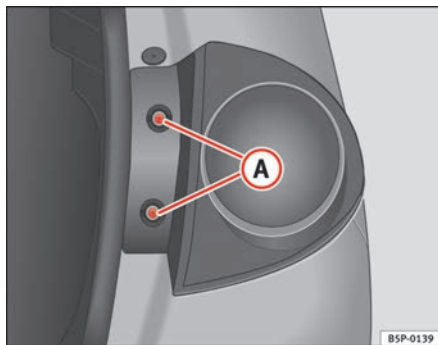

Fig. 190 Side lights and brake lights
- Remove the bolts ⇒ fig. 190 **A**.